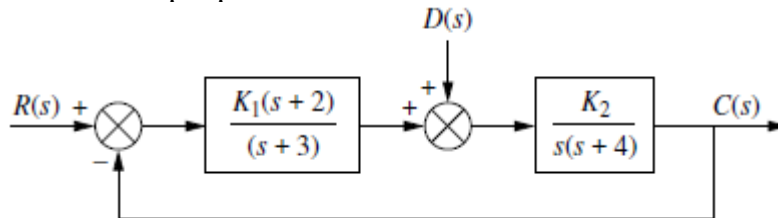

Fig. 15
15. Design the values of  $K_1$  and  $K_2$  in the system given in Fig. 15 to meet the following specifications: Steady-state error component due to a unit step disturbance is -0.000012; steady-state error component due to a unit ramp input is 0.003